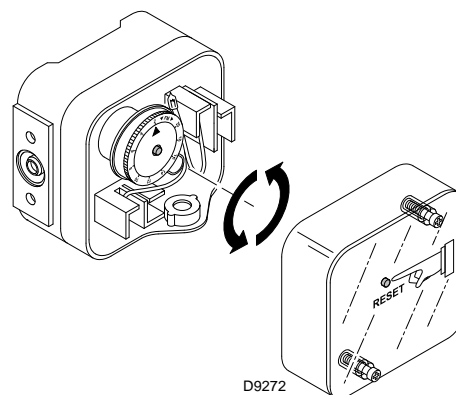

Fig. 50
- Adjust the maximum gas pressure switch to the upper limit of the scale (Fig. 50).
Adjust the maximum gas pressure switch after having performed all other burner adjustments with the maximum gas pressure switch set to the end of the scale (Fig. 50).